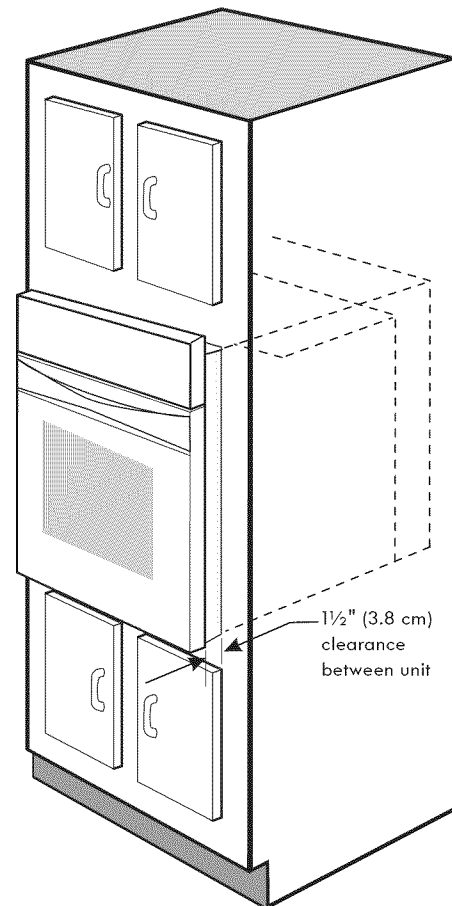

Figure 5
3. Insert the oven into the cabinet opening. Slide oven inward leaving 1½" (3.8cm) clearance between the oven and front of cabinet (see Figure 5).